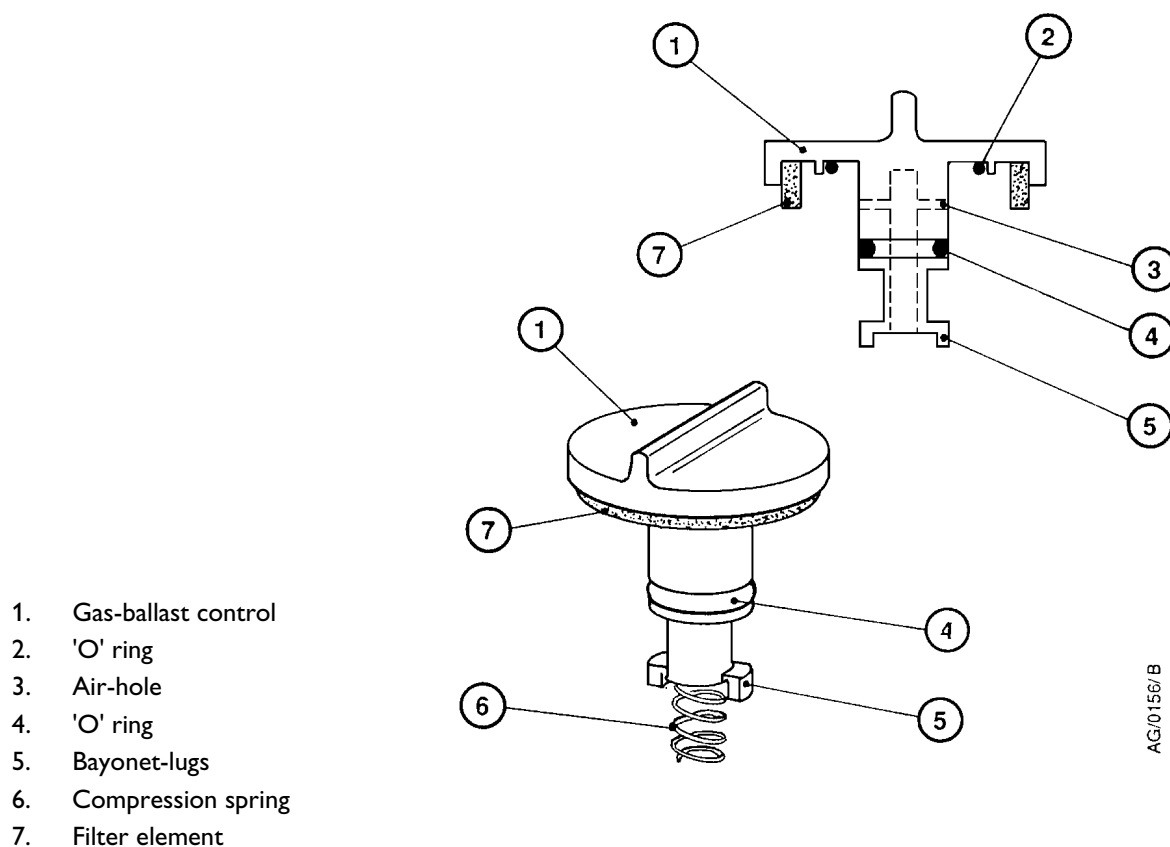

Figure 8 - Gas-ballast control assembly
1. Refer to Figure 8. Disconnect your vacuum system from the pump inlet-port (3) and remove the centring-ring and filter assembly (1) and the 'O' ring (2). Inspect the centring-ring and the 'O' ring. If they are clean, continue at Step 5. If they are not clean, continue at Step 2.
2. Remove the 'O' ring (2) from the centring-ring and filter assembly (1). Do not allow the 'O' ring to come into contact with the cleaning solution.
Note: The gas-ballast filter element (Figure 8, item 7) is retained in its seating with adhesive; do not try to remove it.
1. Refer to Figure 8. Turn the gas-ballast control (1) to the high flow position (position 'II').
2. Push the control down against the compression spring (6) as far as it will go, then turn the control anticlockwise slightly to release the bayonet-lugs (5) and remove the control.
3. If necessary, wipe the control with a clean, dry, lint-free cloth and check that the air-hole (3) is not blocked.